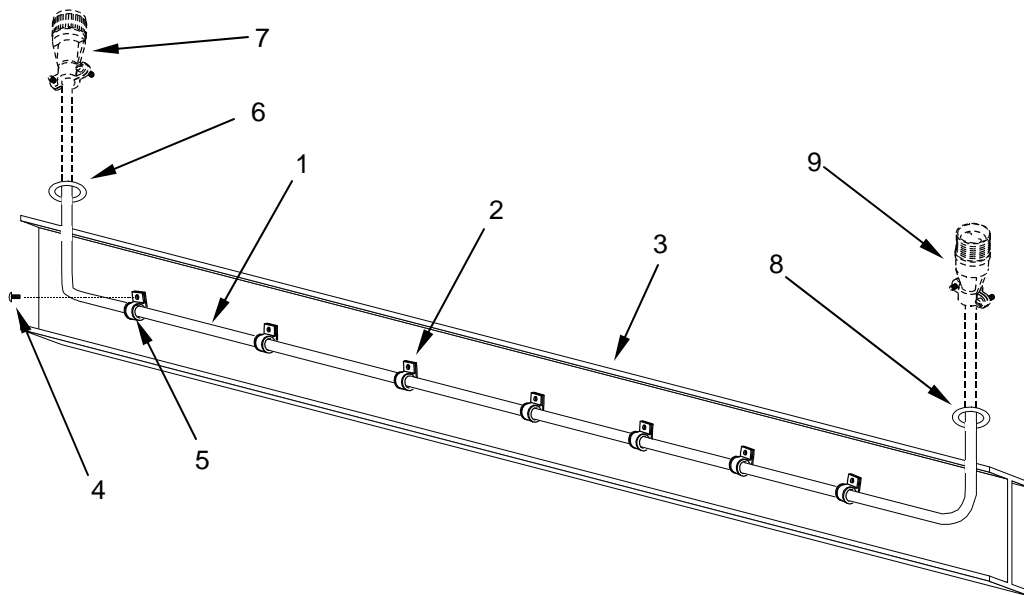

Figure 3. Install the 12-ft MKT Crossway Cable.
The cable clamps (Figure 3, Item 2) that secure the Crossway Cable to the MKT support beam (Figure 3, Item 3) are installed by the fielding contractor and will be in place prior to installing the Crossway Cable.
1. To install the Crossway Cable (Figure 3, Item 1), take position with the required tools under the right, rear end of the MKT in the vicinity of the cooling cabinet that houses the Power Converter Mounting Bracket.
2. Locate the support beam (Figure 3, Item 3) on which the cable clamps (Figure 3, Item 2) are mounted.
3. Distribute the Crossway Cable (Figure 3, Item 1) along the ground under the trailer support beam (Figure 3, Item 3) so that an equal amount of cable is available to pass up through the trailer floor under the cooling cabinet as well as under the left side between the cabinet and griddle.
5. Once the cable has been distributed to allow a sufficient amount to pass up through the floor of the trailer, move to the far left end of the support beam and remove the screw (Figure 3, Item 4) that secures the first cable clamp (Figure 3, Item 5).
6. Place the cable in position on the support beam (Figure 3, Item 3) and reinstall the clamp.
8. While under the cooling cabinet area on the right side of the trailer, remove the rubber grommet (Figure 3, Item 6) mounted in the trailer floor.
9. Cut the grommet and install over the Crossway Cable (Figure 3, Item 1).
10. Push the connector (Figure 3, Item 7) of the Crossway Cable up through the hole in the floor of the trailer and reinstall the rubber grommet (Figure 3, Item 6).
11. Move to the left end of the support beam (Figure 3, Item 3) and remove the second rubber grommet (Figure 3, Item 8). Cut as before and wrap around the cable.
12. Pass the connector end (Figure 3, Item 9) of the cable up through the floor of the trailer and reinstall the grommet in the floor of the trailer.